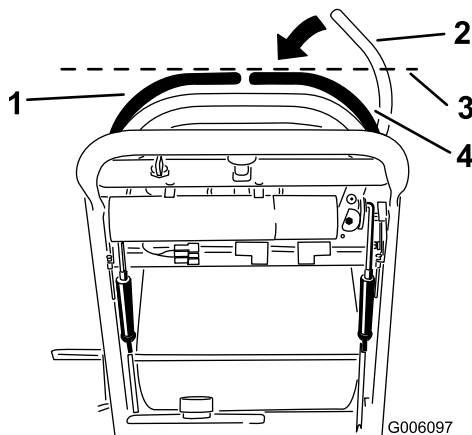

Figure 51
3. Push the right motion control lever down out of locked neutral position (Figure 51).
4. Check if it aligns horizontally with the left motion control lever (Figure 51).